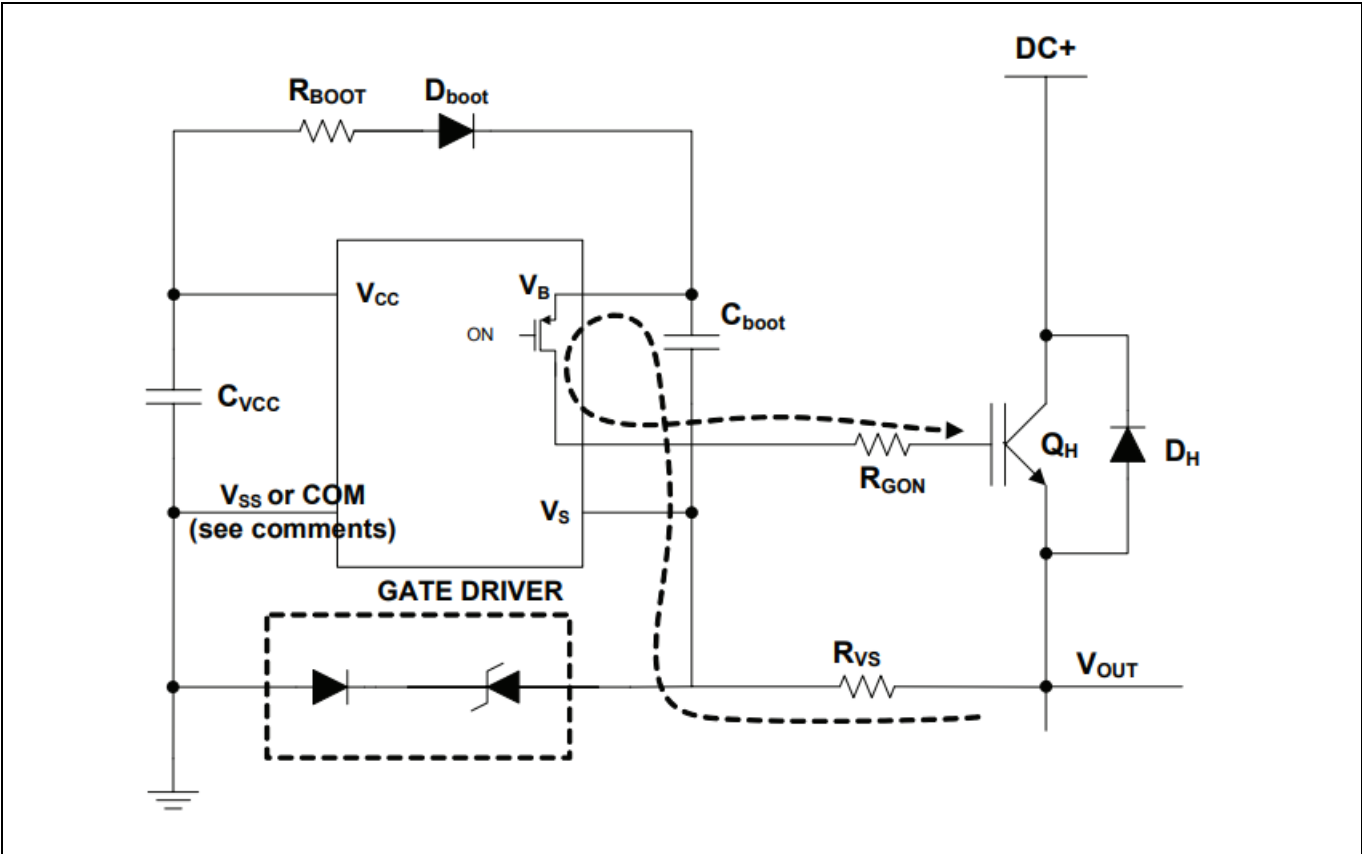

Figure 12 Clamping structure with a Zener diode
- It is also important to notice that the current developed across R_{VS} during initial bootstrap charge may be such that a relevant voltage is developed between the high-side IGBT emitter and the VS pin. This voltage may be brought to the high-side output (HO) through the HO-VS ESD protection diode. In this case, verify that the IGBT gate does not turn on at the bootstrap startup (the gate resistor and gate-emitter capacitance help to filter out this pulse). This may cause a short shoot-through at inverter output
- R_{VS} is also included in turn-on ($R_{GON} + R_{VS}$) and turn-off resistor sizing ($R_{GOFF} + R_{VS}$) as shown in Figure 12